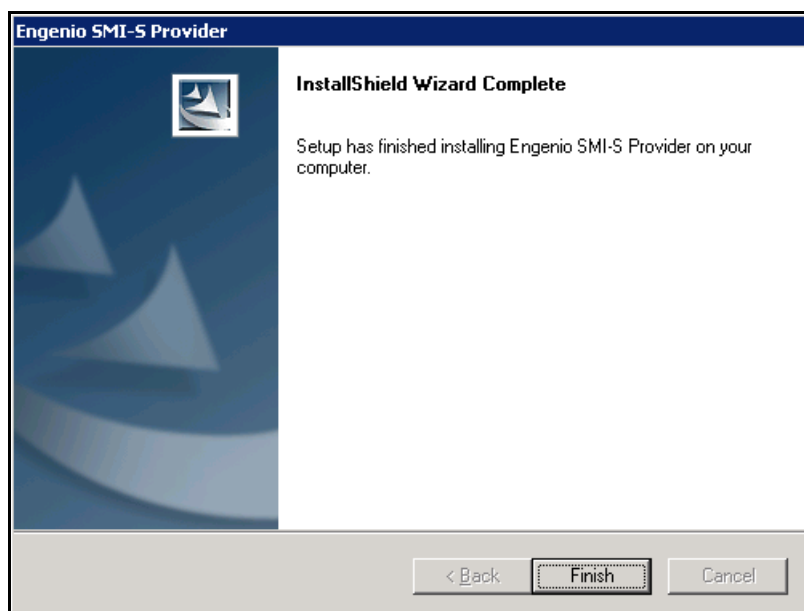

Figure 7-10 InstallShield Wizard Complete window
8. Click **Next** to start the Engenio SMI-S Provider Service. When the Service has started, the installation of the Engenio SMI-S Provider is complete. You can click Finish on the InstallShield Wizard Complete window, as shown in Figure 7-10.